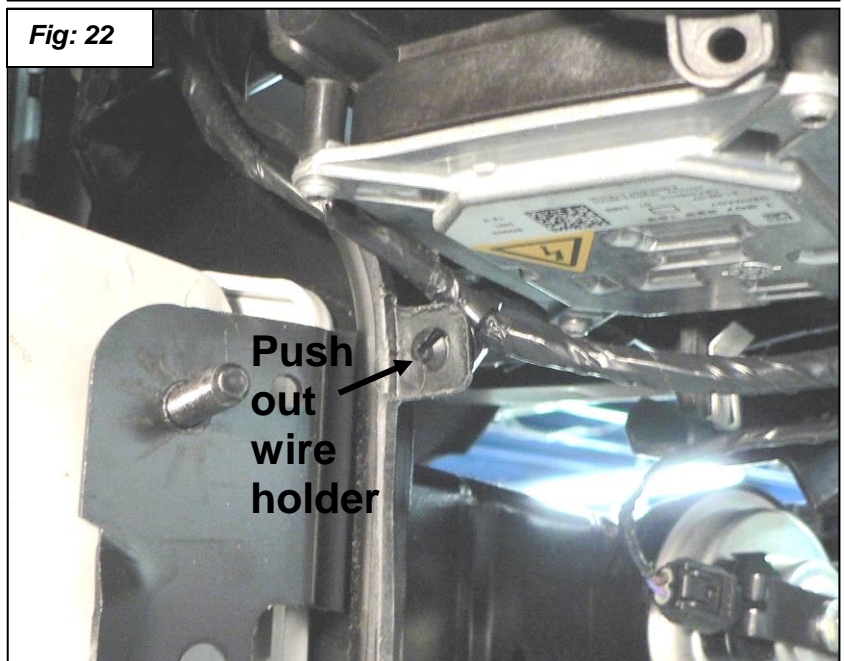

Fig: 20
29. Slide the supplied new BMW part number 51 64 7 154 546 lower radiator support bracket with mount for oil cooler onto the studs where the other one without the mount for oil cooler was. See figure 20. Install nuts, bolts, screws and radiator mount in reverse order of removal. Torque bumper nuts to 22Nm (16 ft-lbs.). You do not need to replace rivets.